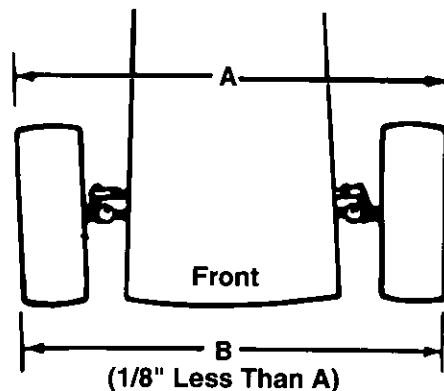

FIGURE 19.
Dimension "B" should be approximately 1/8" less than Dimension "A." See figure 19. To increase Dimension "B," screw tie rod into tie rod end. To decrease Dimension "B," unscrew tie rod from tie rod end. Reassemble tie rod. Check dimensions. Readjust if necessary.
1. Remove the belt guards at each deck pulley by removing the self-tapping screws. See figure 19.